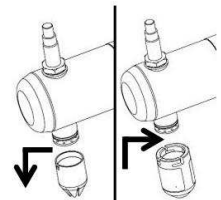

fig. 9
- Replace garnishing nozzle with cleaning nozzle (fig. 9)